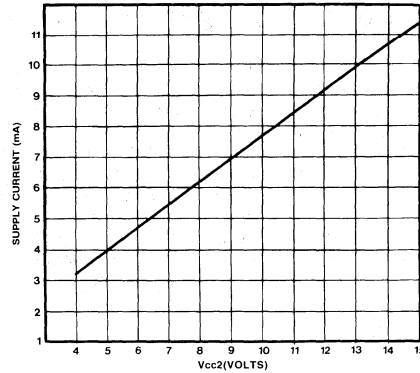

Fig.6 Supply current v. Vcc2 (I_p = 0)
- $V_{cc2} \text{ Diss}$ = dissipation obtained from graph(Fig.6)